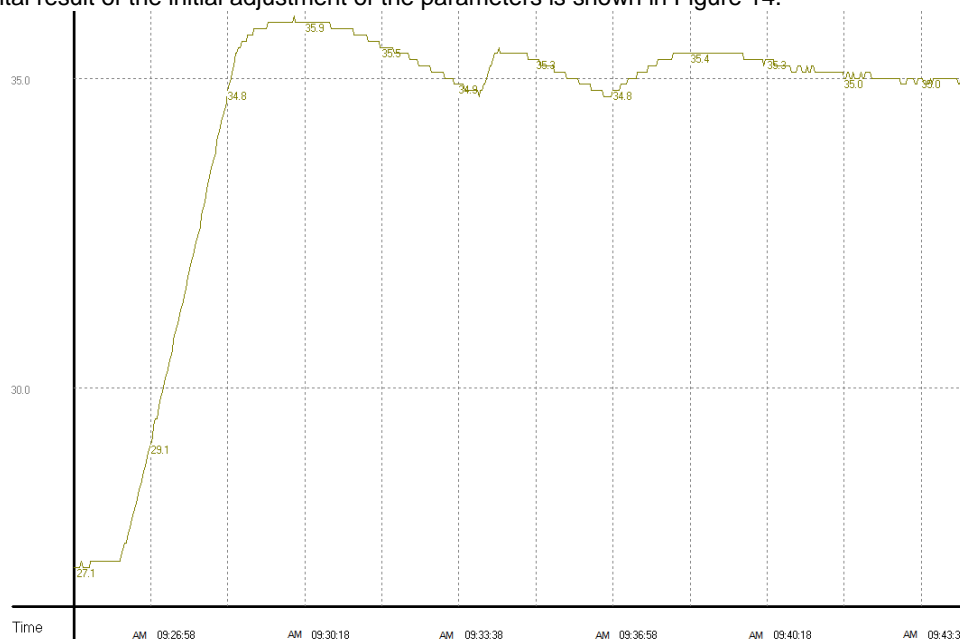

Figure 14
- ◆ When the temperature remains 35°C, the best PID temperature control parameters (K_P , K_I , and K_D) are automatically calculated. The experimental result is shown in Figure 14.
The experimental result of the initial adjustment of the parameters is shown in Figure 14.